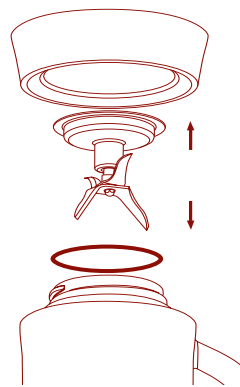

Figure 8
8. For each Blending Jar, turn the Blending Jar upside down and unscrew the Jar Base (counter-clockwise to the left). Carefully remove the Blending Blade, and Blending Blade Sealing Ring (Figure 8)